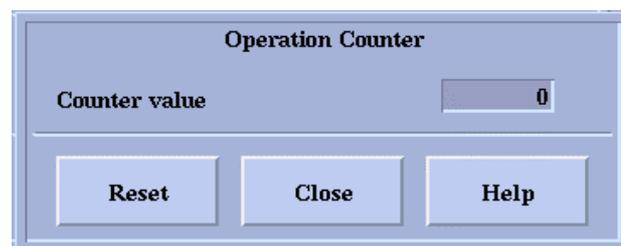

Figure 7. REC 501 operation counter dialog (FPU\_C501H.PIC)
Operations can be made, if the authorization level of the operator is Control (1) or higher. The counter can be reset by the Reset button. The operation is confirmed or cancelled in the opening information dialog. Figure 7 presents the REC 501 operation counter dialog.